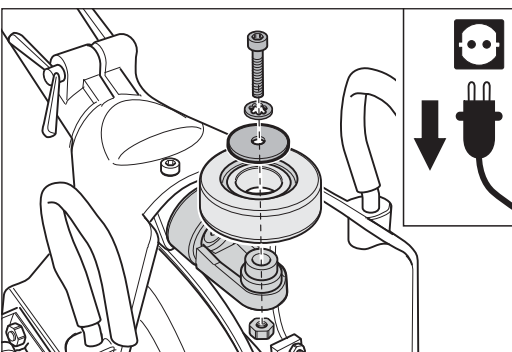

Fig. 96 Remove the screw with the washers and nut in the centre of the wheel and take off the back wheel. Assemble in reverse sequence.
- 4 Release the screw in the centre of the wheel and remove the screw, washers and nut (Fig. 96). Ensure that you do not lose the nut.